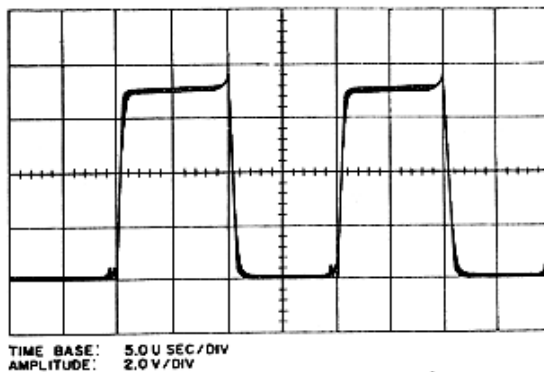

Figure 6.15 – Q7, Collector Waveform
i. Reconnect oscilloscope to collector of 50 kHz multivibrator stage Q7 (or top of R21). The observed waveform should resemble the one shown in figure 6.15.